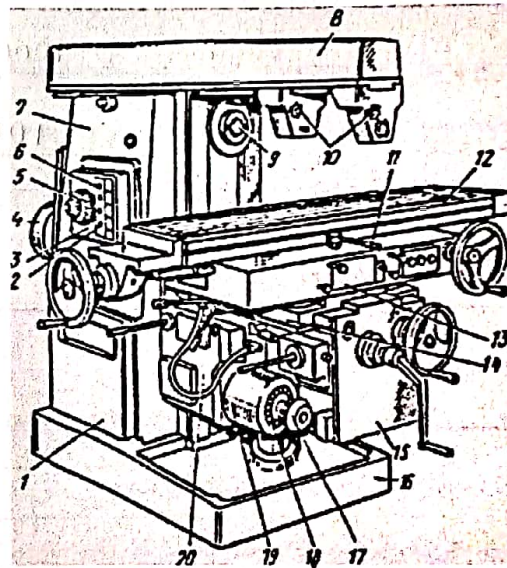

Figure 1
1. A schematic diagram of the universal column-and-knee type milling machine is shown in Figure 1. Label the following components.